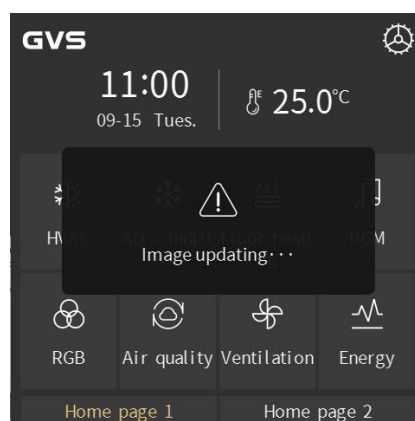
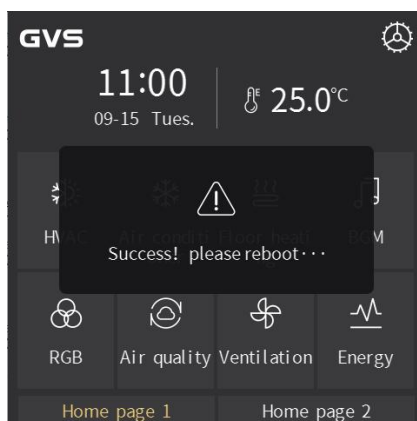
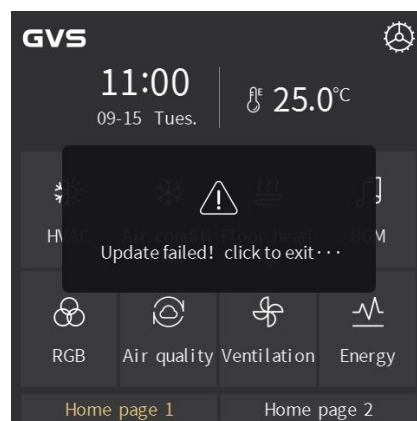
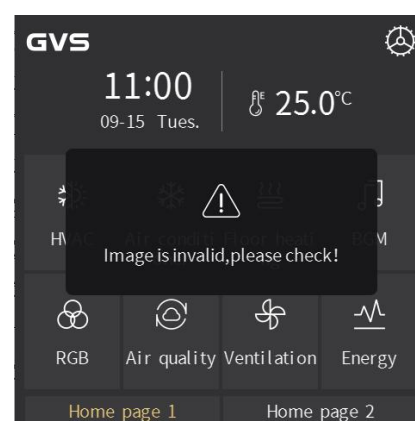

Fig.2.12.6
Fig.2.12.7
Fig.2.12.8
Fig.2.12.9
3. Click “Confirm” to update picture; after upgrade, there will pop up a window of the result, if upgrade is successful, then reboot the device manually to apply the new picture to the album; if upgrade is failed, click any area outside the window to return to the page, as shown in Fig.2.12.6, Fig.2.12.7, Fig.2.12.8 and Fig.2.12.9.